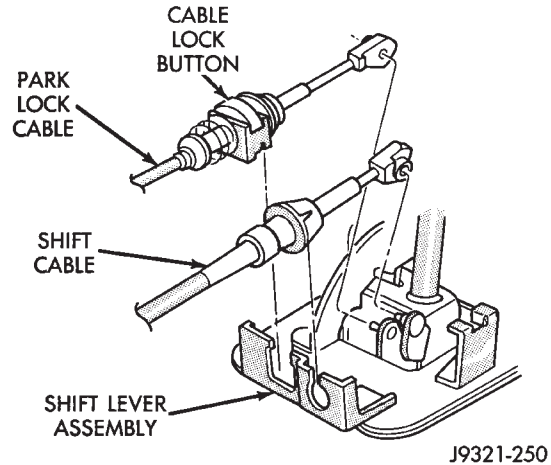

Fig. 179 Park Lock Cable Attachment
(1) Shift transmission into PARK.
(2) Remove shift lever bezel and console screws. Raise bezel and console for access to cable.
(3) Pull cable lock button up to release cable (Fig. 179).
(4) Turn ignition switch to LOCK position.
(5) Use a spacer to create a one millimeter gap between the shifter pawl and top of the shift gate.
(6) Pull cable forward. Then release cable and press cable lock button down until it snaps in place.
(7) Check adjustment as follows: